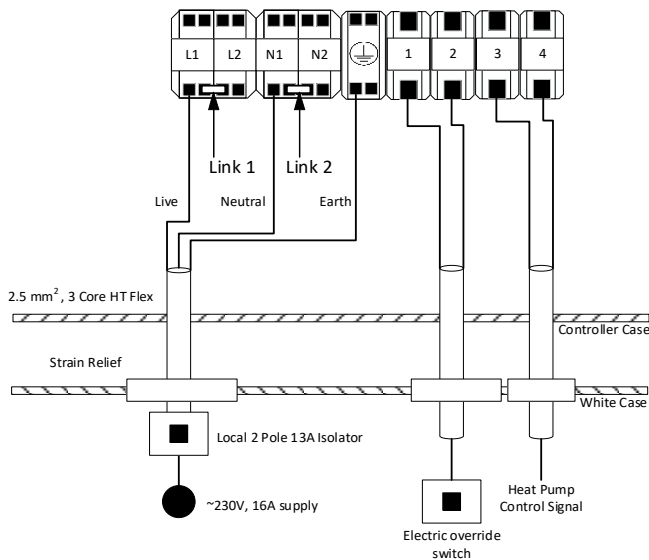

Figure 13.2: Wiring Option 2 – HW +iLTHP Daikin Low Temperature Heat Pump
- Wire a 2 core PVC insulated cable (minimum 0.75mm2 CSA, 24 x 0.2mm according to BS 6500) from a local 2-pole switch, run the wire into the appliance via the appliance case cabling grommets and then into the control box housing through the hole available. Secure the cables in Terminal T1 & T2 independently (Figure 13.2).
Wire a 2 core PVC insulated cable (3A, minimum 0.75mm2 CSA, 24 x 0.2mm according to BS 6500) from the Heat Pump Indoor Tank sensor connection "X9A (PCB A1P)" (please refer to Heat Pump manual) , then run the wire into the appliance via the appliance case cabling grommets and then into the control box housing through the hole available. Secure the cables in Terminals T3 & T4 independently (Figure 13.2).